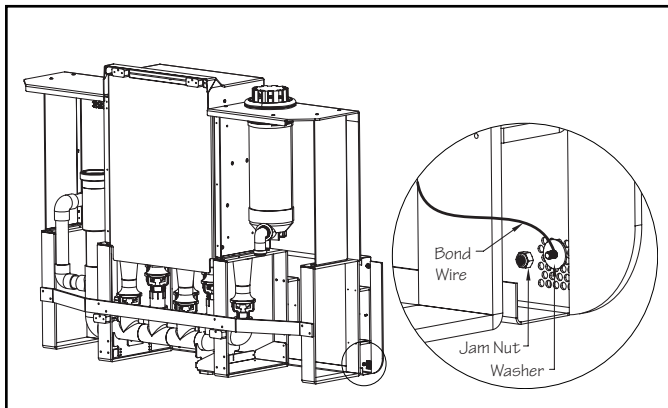

Fig. 107
3. Remove the nut and washer from the backside of the suction outlet grill and remove the bond wire. Fig. 107.